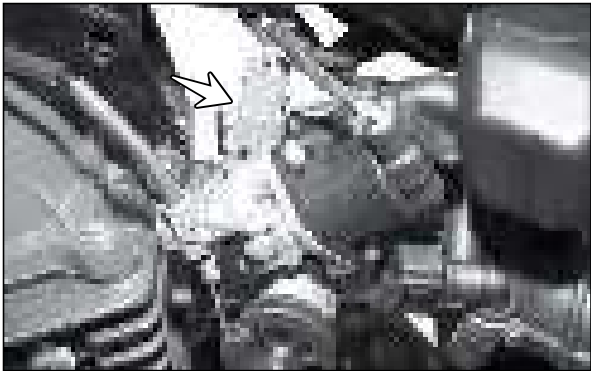

Fig. 5.51
- The fuel injector is used to inject the fuel into the combustion chamber based on the signal from the ECU. (Fig. 5.51) Check the resistance of the fuel injector in the following manner: